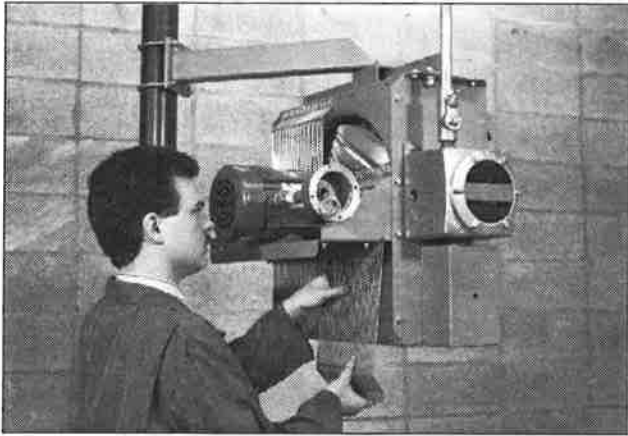

FIGURE 14
3. Remove the 2 piece fan guard assembly (see Figure 14).